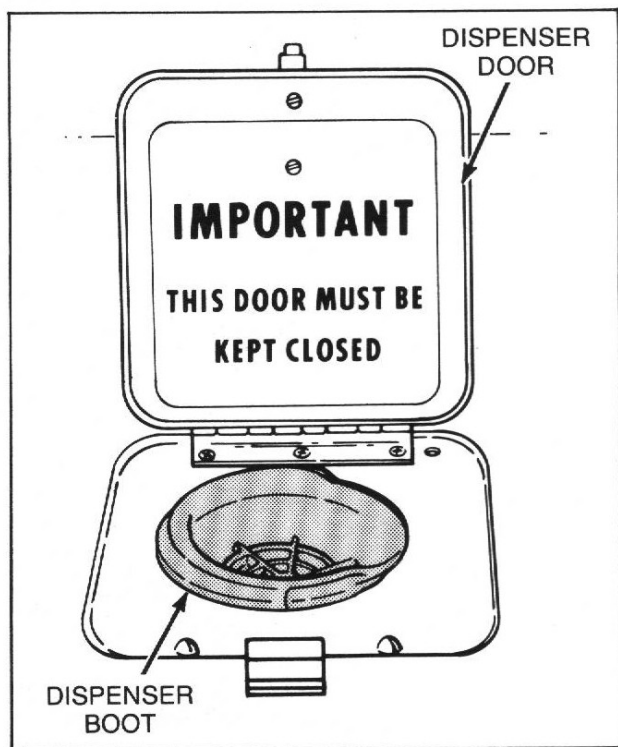

Figure 6
- b. Open dispenser door, compress dispenser boot and push boot down through cabinet top, *Figure 6*.
- f. Open dispenser door, compress dispenser boot and push boot down through cabinet top, *Figure 6*.
- d. Open dispenser door, compress dispenser boot and push boot down through cabinet top, *Figure 6*.
- e. Open dispenser door, compress dispenser boot and push boot down through cabinet top, *Figure 6*.